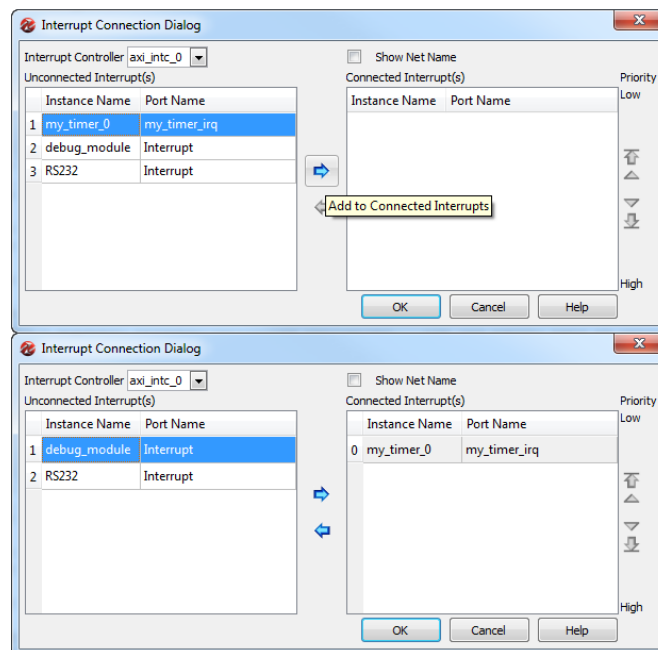

Figure 45: Interrupt Connection Dialog
1. Click on the **Ports** filter. Click on the “+” for **my\_timer\_0** to view its ports. Click on the **Connected Port** field for the **my\_timer\_irq** port. Dialog on Figure 45 will show.
2. Select **Instances Name: my\_timer\_0** and **Port Name my\_timer\_irq** and then click on **Add to Connected Interrupts** like on Figure 45.